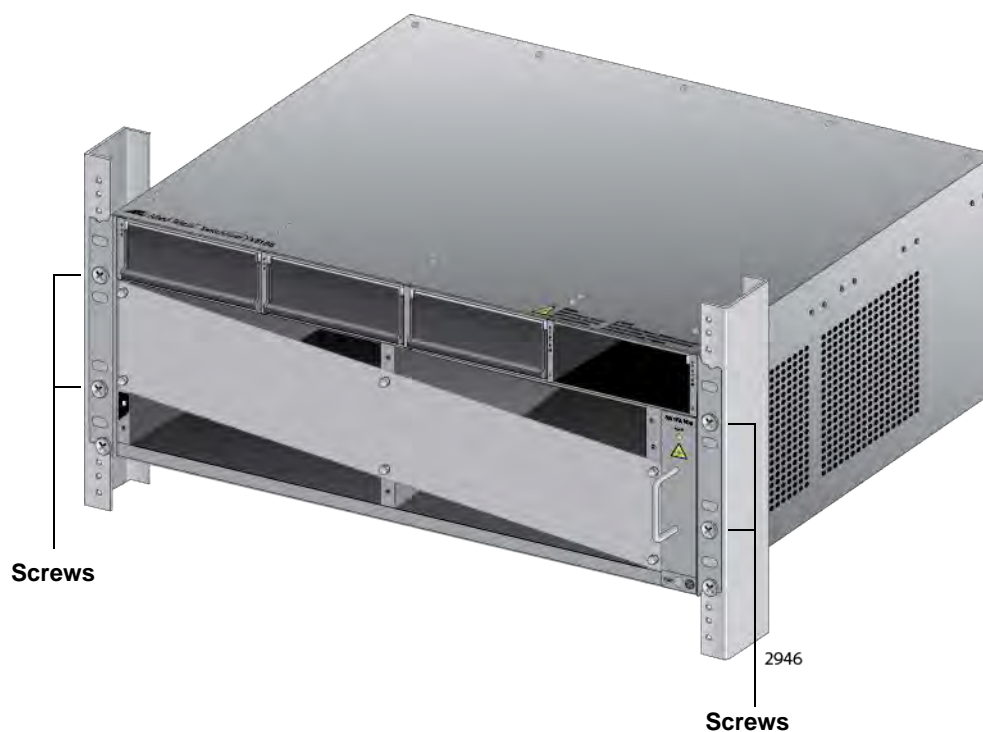

Figure 46. Installing the Rack Mount Screws
4. Install four rack mount screws (not provided) to secure the chassis to the equipment rack, as shown in Figure 46 on page 120.